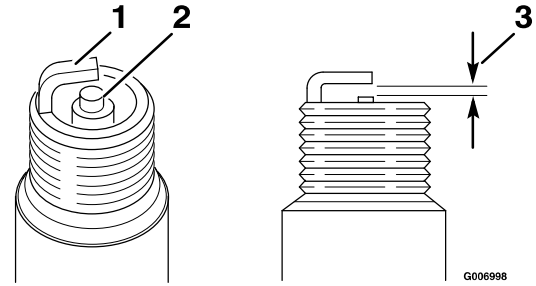

Figure 22
5. Set the gap on the plug to 0.6 to 0.7 mm (0.024 to 0.028 inch); refer to Figure 22.